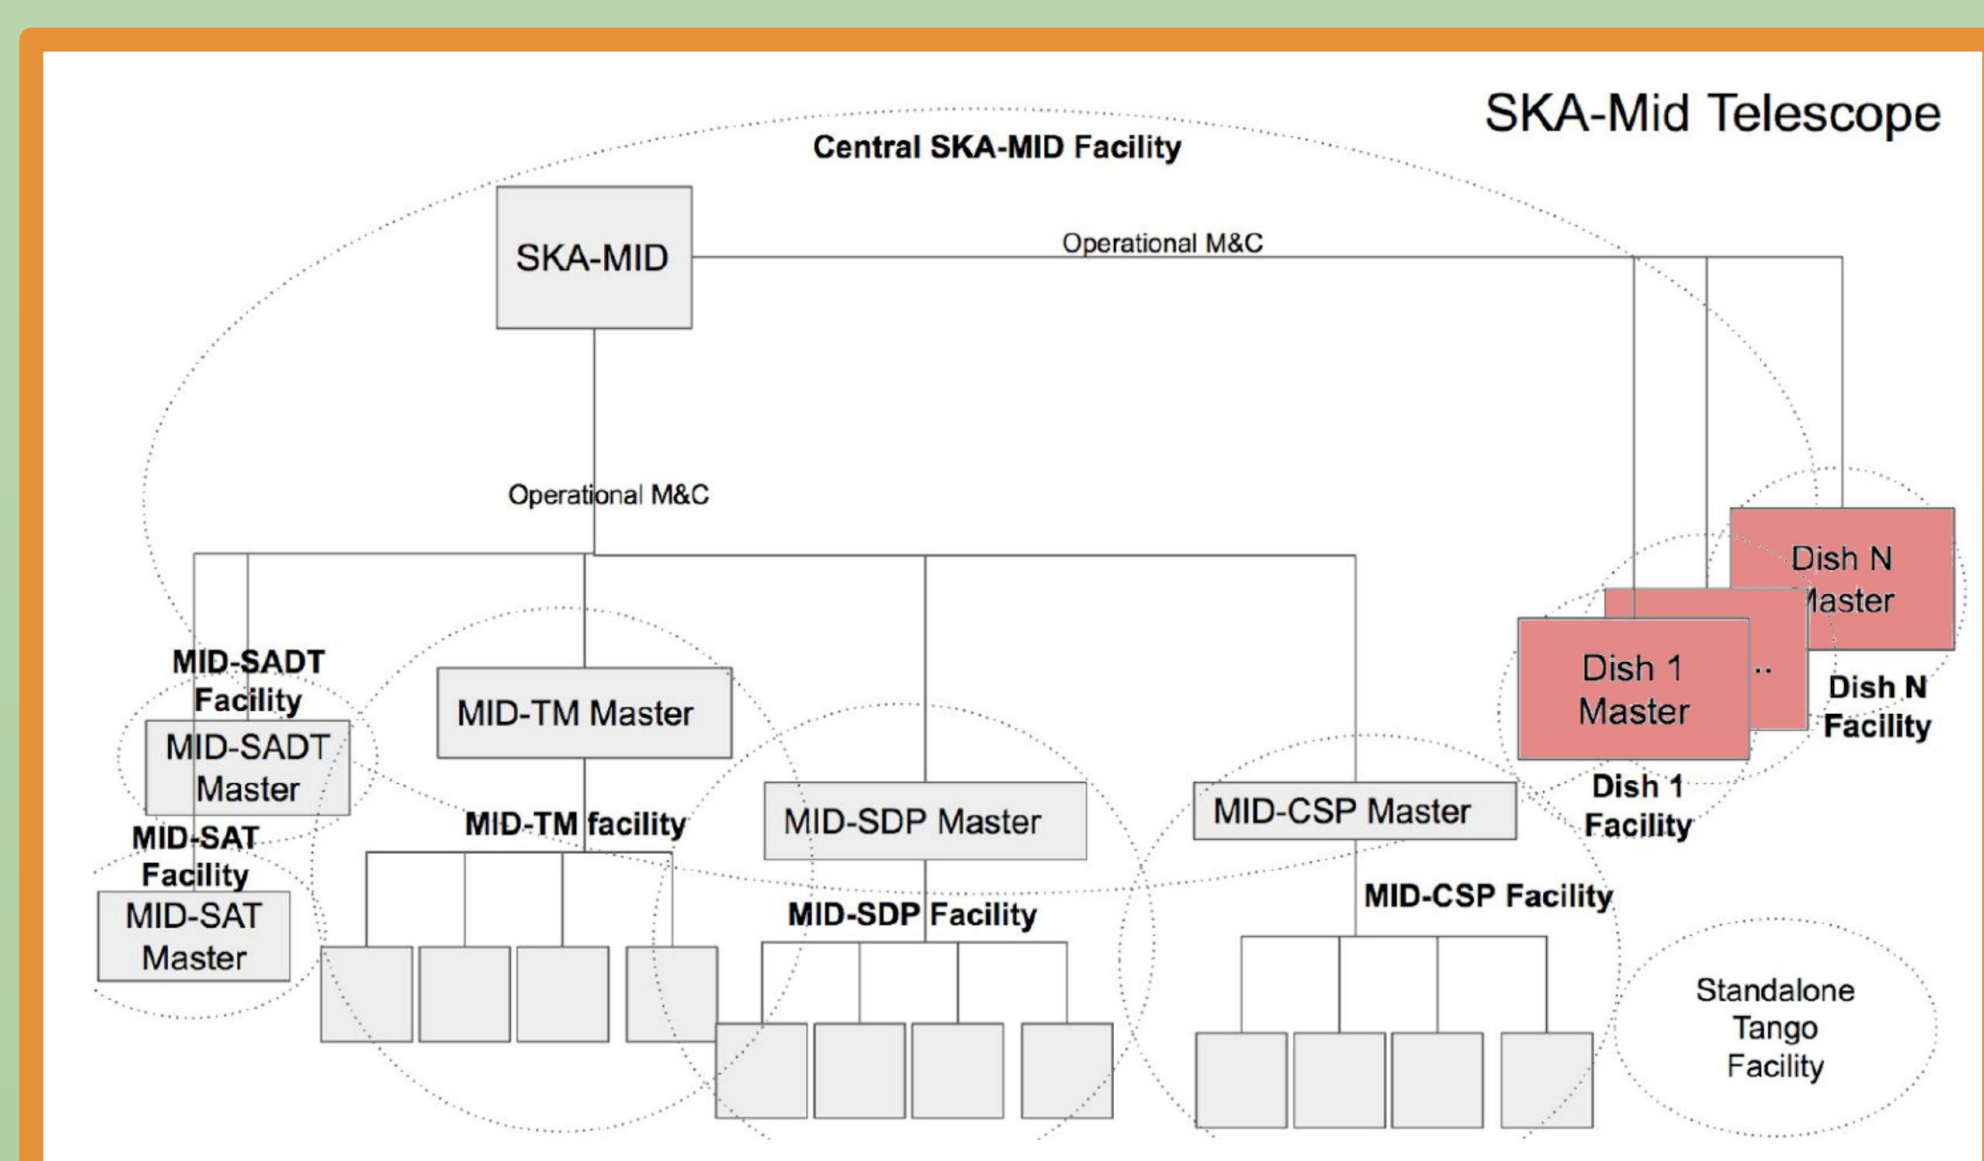

Fig. 4: High-level SKA1-Mid CS hierarchy
- ❖ **SKA Control System (CS) design** (Fig. 4)
- LMC provides dish master control and rolled-up monitoring to Telescope Manager (TM)